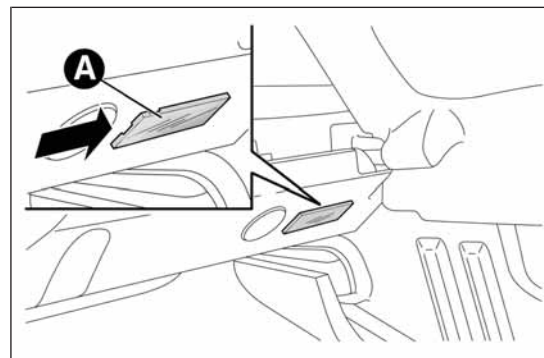

fig. 145
- ☐ open the luggage compartment and extract the roof light A fig. 145 working in the point shown by the arrow;
- ❑ refit the roof light A fig. 145 by inserting it in its correct position firstly on one side and then pressing on the other until it clicks into place.